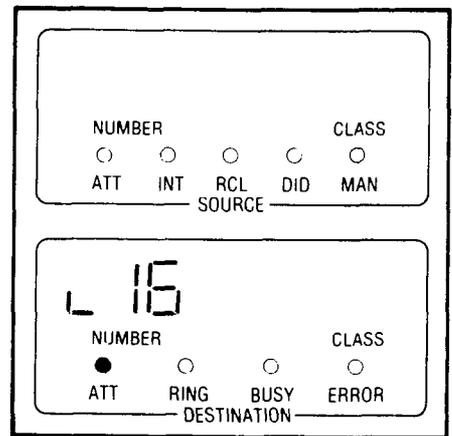

Fig. 453-1
- [4A] Dial * 16 (Fig. 453-1)
ENTER VALUES IN CHECK EXTENSION MESSAGE REGISTER (FIG. 453-1)